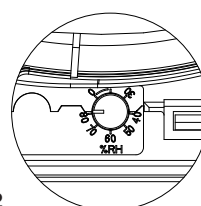

Fig. 2
**Humidity Sensor:** The fan's integrated humidity sensor constantly monitors air humidity in the room. When the sensor detects humidity levels above the fan's user-adjustable set-point (30%-80% relative humidity), the fan will turn on to lower the humidity and run for 20 minutes. The sensor will continue to check humidity levels and run in 20 minute intervals until the humidity level is below the user-adjustable set-point. The factory setting is 30%. See Fig. 2.